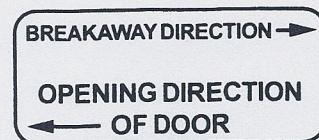

Figure 7-1
- 7.1. Orient the breakaway stop according to the directions on the switch label (Figure 7-1). The "OPENING DIRECTION OF DOOR" arrow should point in the direction that the door opens during normal operation.